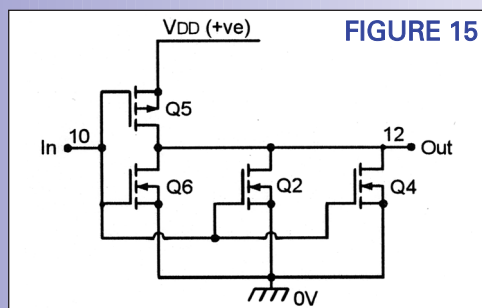
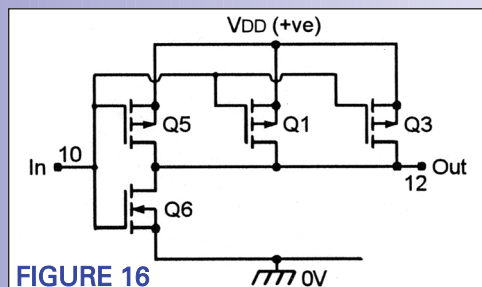

FIGURE 15
FIGURE 16
The maximum source and sink output currents of a simple CMOS inverter stage self-limit at about 10-20 mA as one or other of the output MOSFETs turns fully on. Higher sink currents can be obtained by simply wiring n-channel MOSFETs in parallel in the output stage. Figure 15 shows the 4007UB wired so that it acts as a high-sink-current inverter that will absorb triple the current of a normal inverter. Similarly, Figure 16 shows how to wire the 4007UB to act as a high-source-current
■ **FIGURE 15: 4007UB HIGH-SINK-CURRENT INVERTER.**
■ **FIGURE 16: 4007UB HIGH-SOURCE-CURRENT INVERTER.**